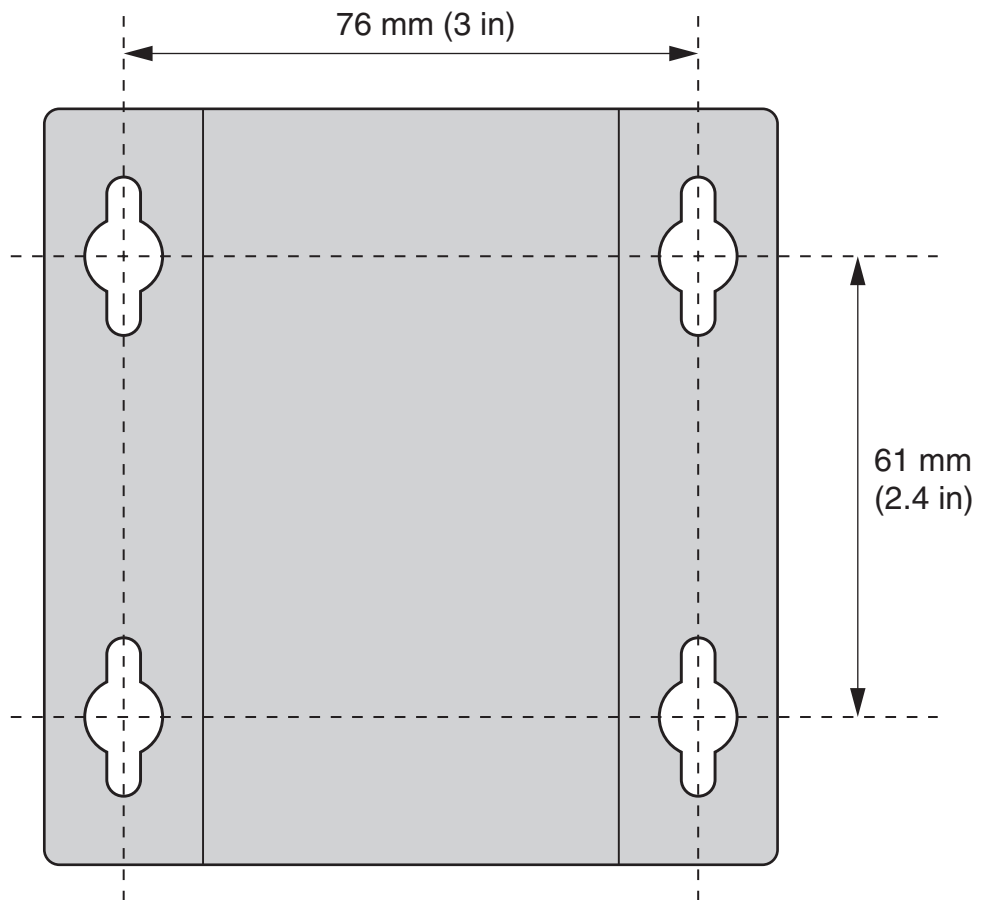

Figure 22. Wall-mount Template
5. Print out the template in Figure 22.